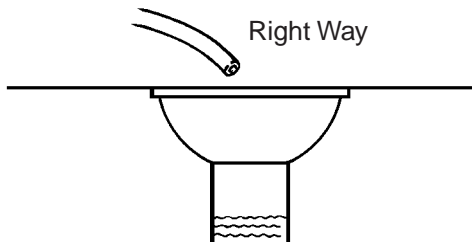
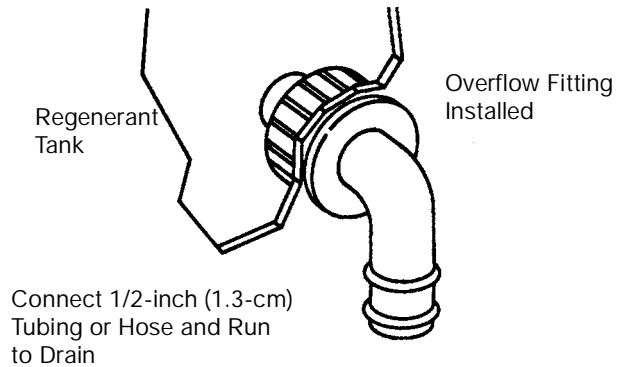

Figure 3
Figure 4
**IMPORTANT:** Never insert the drain line into a drain, sewer line, or trap. Always allow an air gap between the drain line and the wastewater to prevent the sewage from back-siphoning into the conditioner (Figure 3).
To connect the overflow line, locate the hole on the side of the regenerant tank. Insert the overflow fitting (not supplied) into the tank and tighten the fitting with plastic thumb nut and gasket as shown (Figure 4). Attach a 1/2-inch (1.3-cm) length of I.D. tubing (not supplied) to the fitting, and run it to the drain. Do not elevate the overflow line higher than 3 inches (7.6 cm) below the bottom of the overflow fitting. Do not connect to the drain line of control unit. The overflow line must be a direct, separate line from the overflow fitting to the drain, sewer, or tub. Allow an air gap as per drain line instructions (Figure 3).